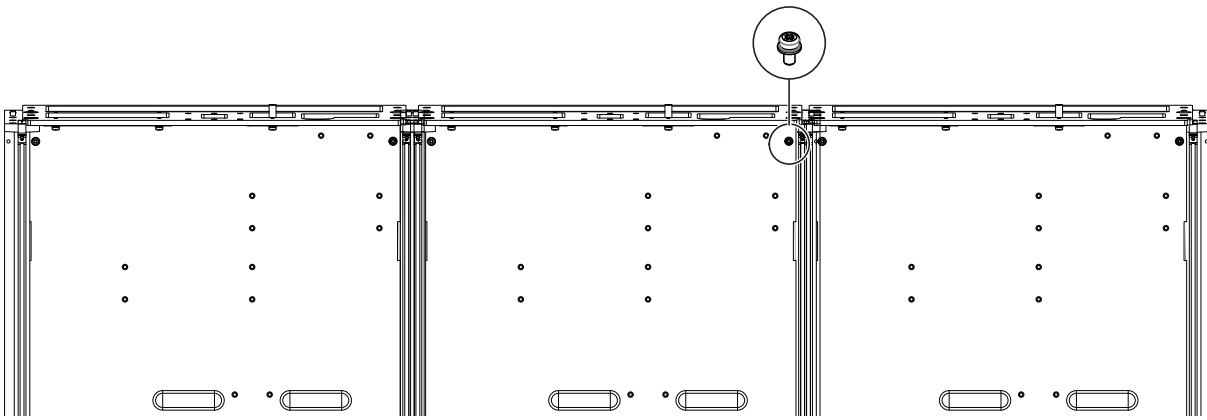

Figure 1. Removing a #1 Phillips screw from the chassis in which an Ethernet switch will be installed (cable harnesses, PSUs, and switch not shown)
- 2 Before installing the Ethernet switch tie-down bracket, remove the #1 Phillips screw that secures the Chassis Bottom Plate to the adjacent Side Wall closest to the back of the chassis as shown in Figure 1.